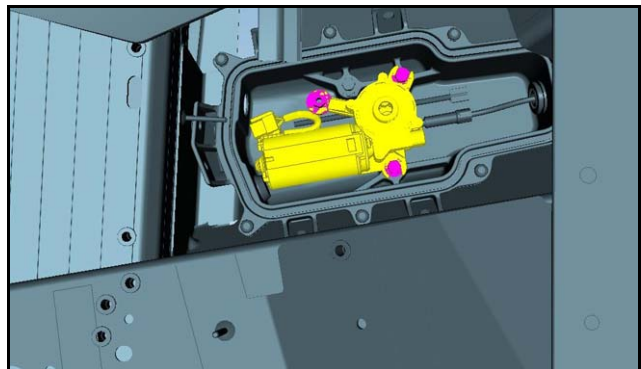

Figure 12
35. Remove the three nuts that attach the tonneau motor (Refer to Figure 12).